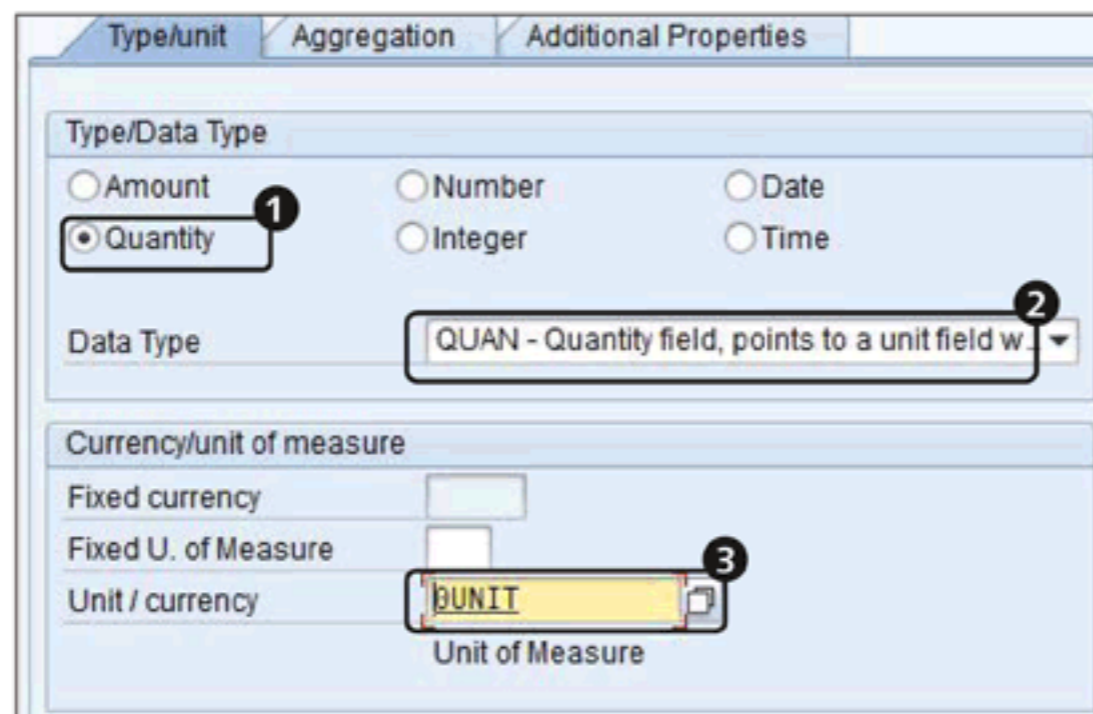

Figure 3.40 Create Key Figure BW_QTY
Our case study requires the key figure BW_QTY to be defined as a quantity key figure InfoObject (1 of Figure 3.40) because the key figure corresponds to billing quantity (2).